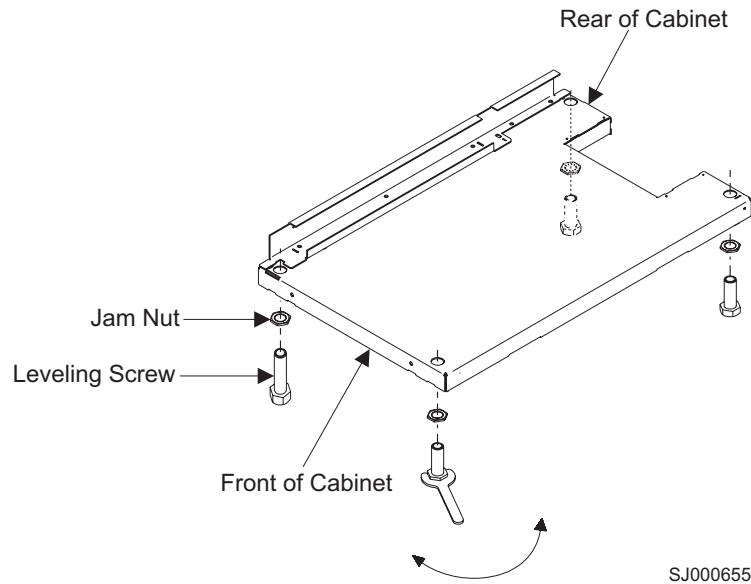

Figure 2. Adjusting the leveling feet
1. Loosen the jam nut on each leveling foot by turning the nut counterclockwise, away from the bottom of the cabinet. See Figure 2 on page 3.